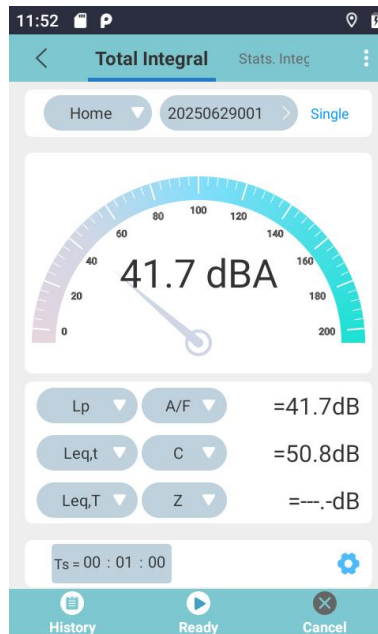

Figure 6.3
Tap "Noise Measurement" to access the noise measurement interface (see Figure 6.3). This interface allows users to select from various measurement modes, including Total Value Integration, Statistical Integration, 1/1 Octave Band Analysis (1/1 OCT), 1/3 Octave Band Analysis (1/3 OCT), FFT Analysis, 24-Hour Measurement, Indoor Measurement, Reverberation Measurement, Speech Transmission Index (STI), and Sound Exposure Level (SEL).
- d. Auxiliary Functions: Clicking the top-right “” button opens the Auxiliary Functions menu (see Figure 6.3). Available options include Location, User Manual, Terminology Explanation, Voice Annotation, and Recording. Clicking on any of these options will navigate to the respective function page (refer to Section 6.7 for detailed operations).